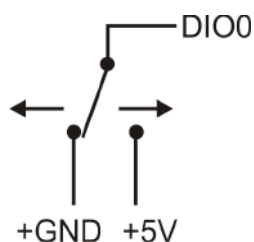

Figure 4. Schematic showing switch detection by digital channel DIO0
When you configure the digital bits for input, you can use the OM-USB-5201 digital I/O terminals to detect the state of any TTL-level input. Refer to the schematic shown in Figure 4. If you set the switch to the +5 V input, DIO0 reads *TRUE* (1). If you move the switch to GND, DIO0 reads *FALSE* (0).